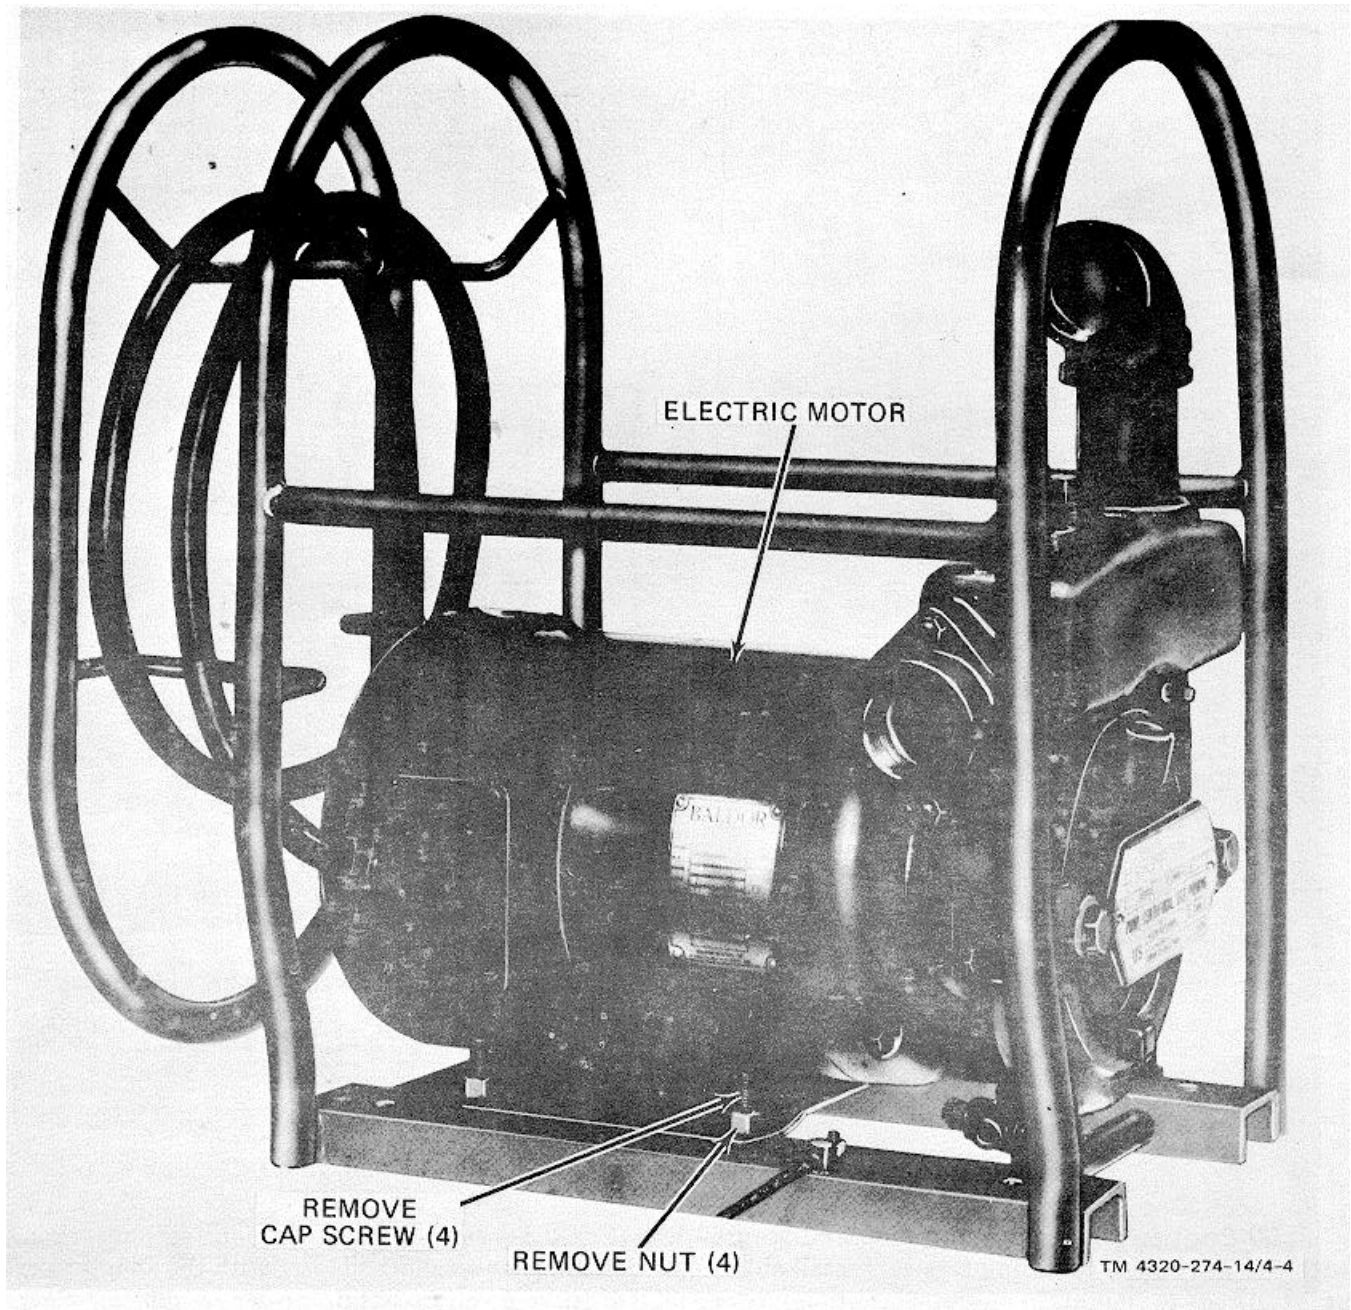

Figure 4-4. Electric motor assembly, removal and installation.
- (3) Refer to figure 4-4 and remove the four nuts and cap screws securing the motor to the frame.